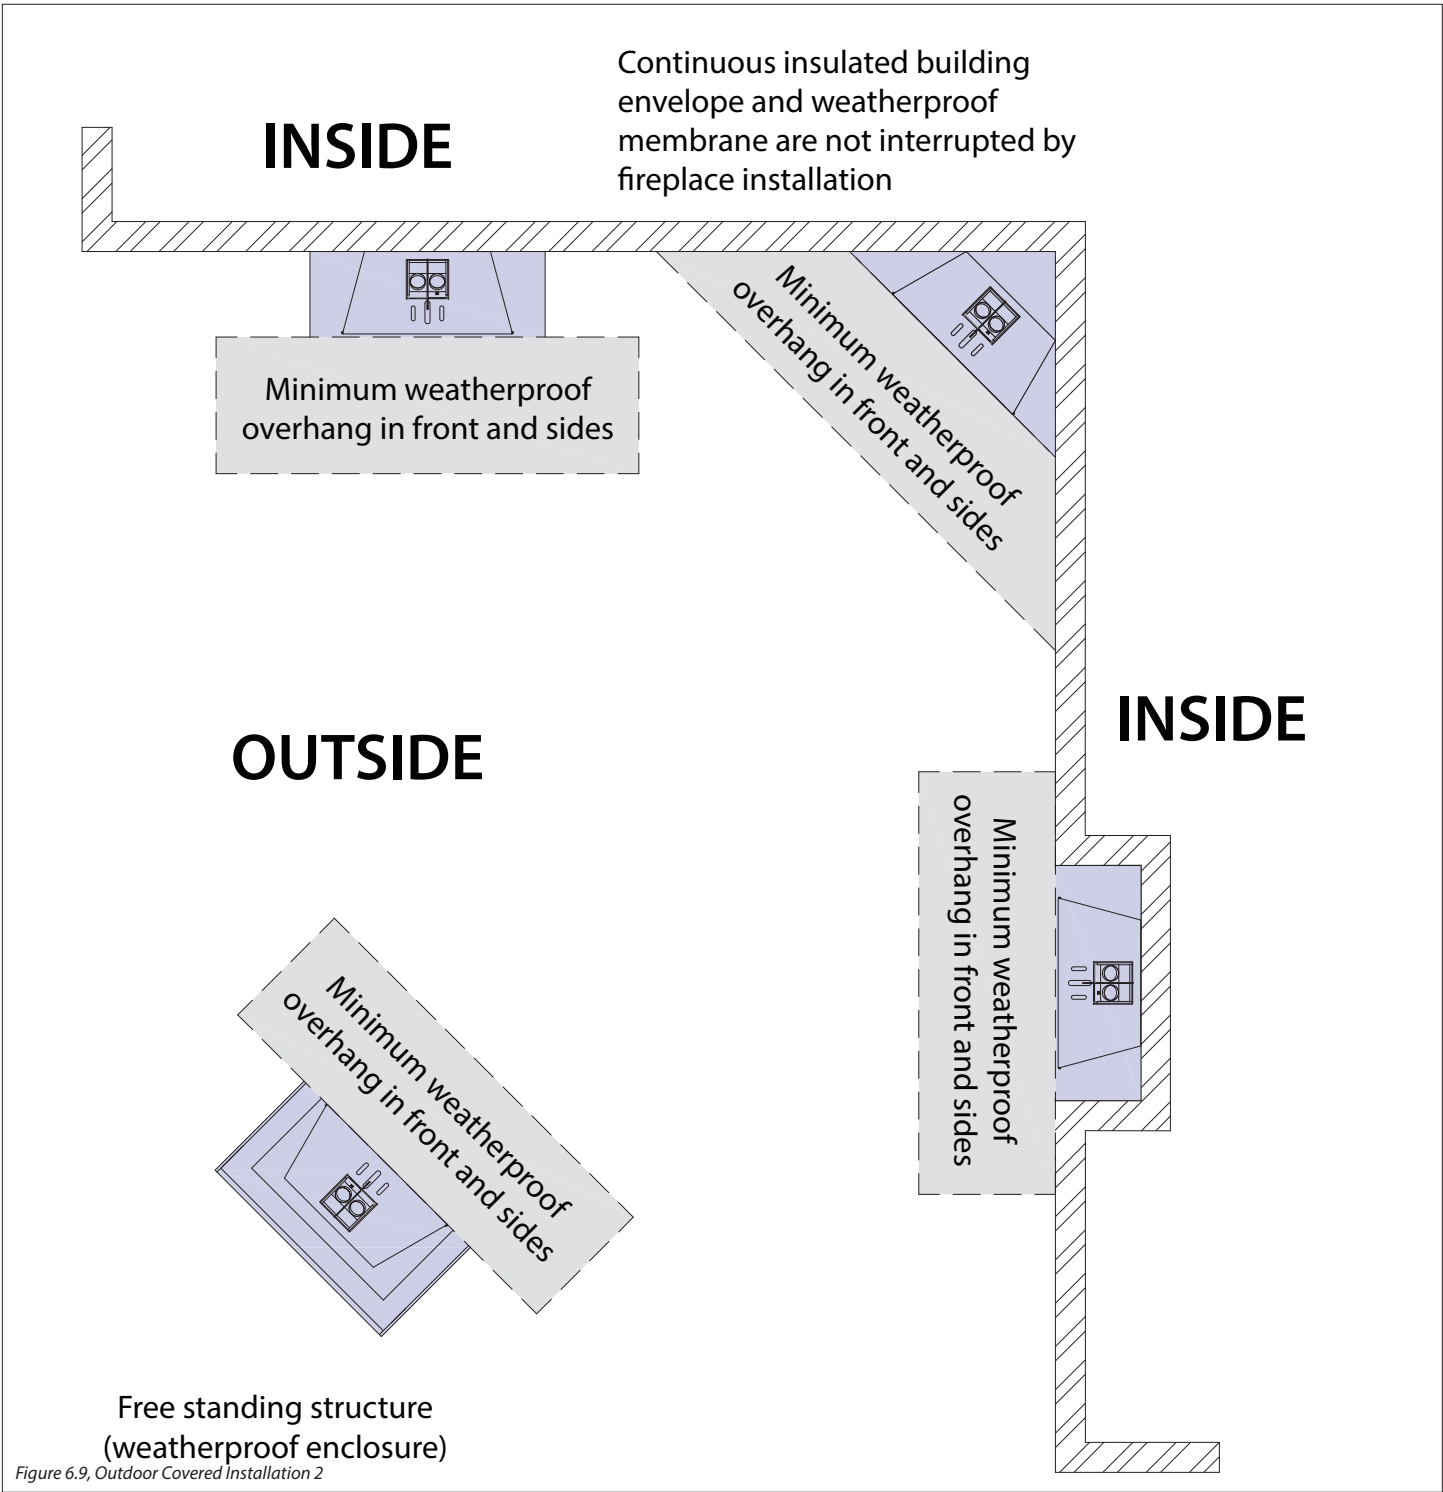

Figure 6.9, Outdoor Covered Installation 2
- The continuous insulated building envelope and weatherproof membrane is not to be interrupted by fireplace installation. See Figure 6.9 on the following page.